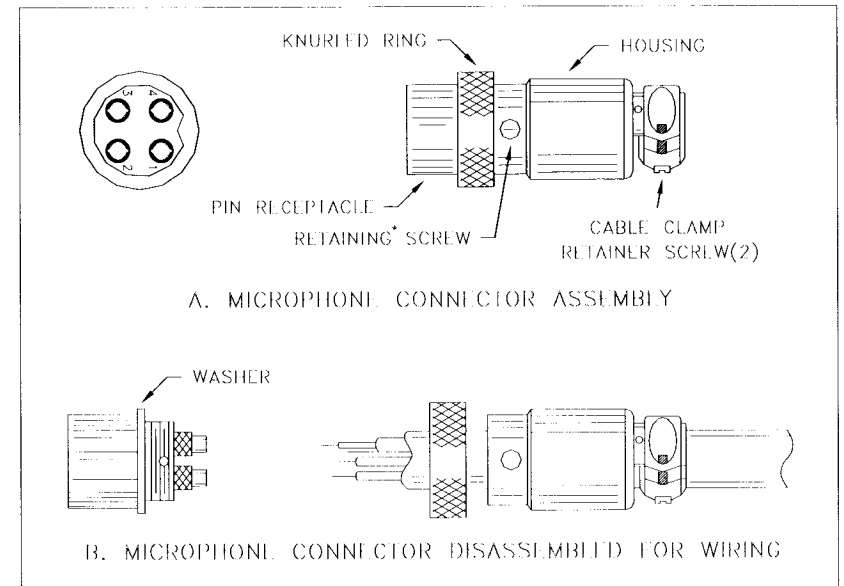

Fig. 2 Microphone plug wiring
4. Feed the microphone cable through the housing, knurled ring as shown Figure 2.
6. Be sure that the housing and the knurled ring of Figure 2 are pushed back onto the microphone cable before starting to solder. If the washer is not captive to the pin receptacle body, make sure that it is placed on the threaded portion of the pin receptacle body before soldering.